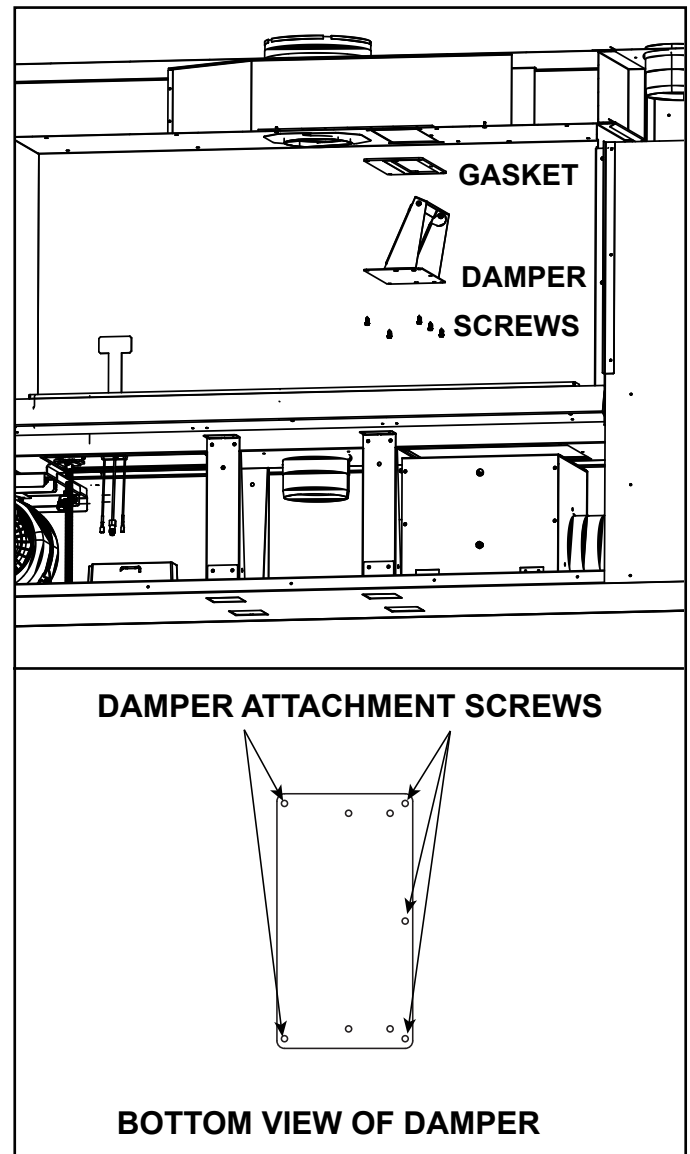

Figure 4.20 Damper Replacement
4. Remove the five outer screws that hold the damper in place. Screw locations are shown in Figure 4.20. Support the damper as you remove the last screw.
5. Lower the damper from the firebox top noting its orientation. See Figure 4.20.
7. Insert the new damper into the opening in the top of the firebox. Attach with five screws. See Figure 4.20.